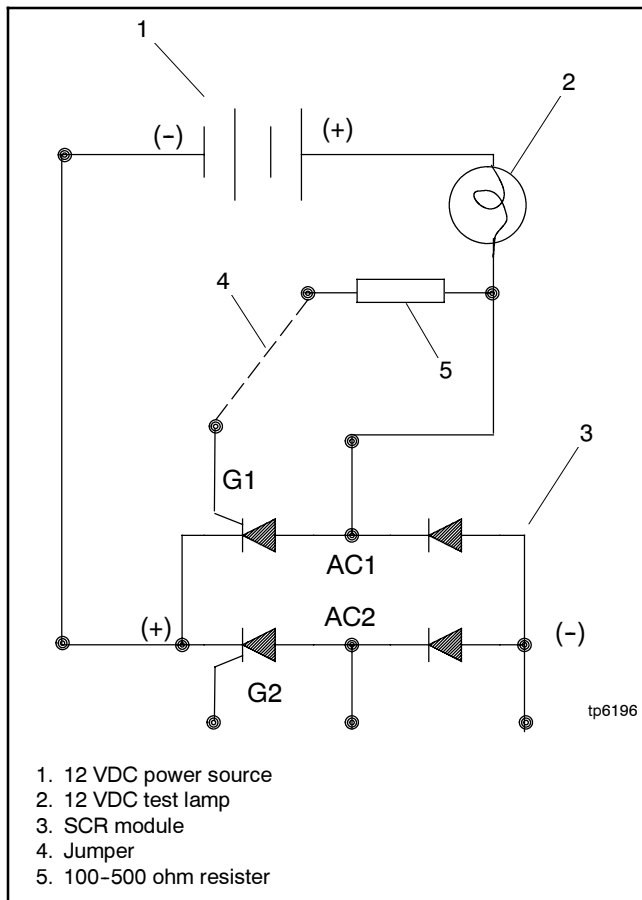

Figure 4-16 SCR Test
8. See Figure 4-16. Connect the *negative* (-) lead from the DC power source to the *positive* (+) terminal on the SCR module.